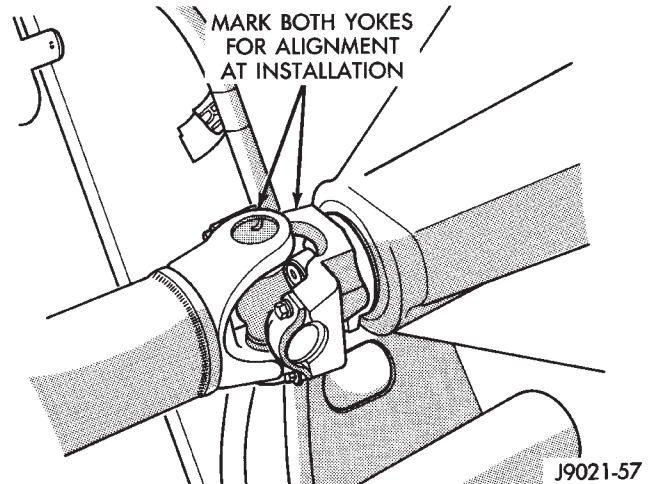

Fig. 1 Marking Propeller Shaft And Axle Yoke
- (1) Shift transmission into Neutral.
- (2) Raise vehicle on hoist.
- (3) Remove skid plate.
- (4) Mark front and rear propeller shafts for installation alignment (Fig. 1). Then remove shafts.